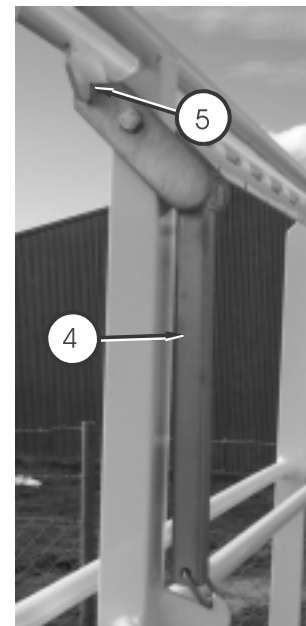

Figure 8.35
4. Lower the deck extension handles **4** and allow the lock **5** to locate (see Figure 8.35).